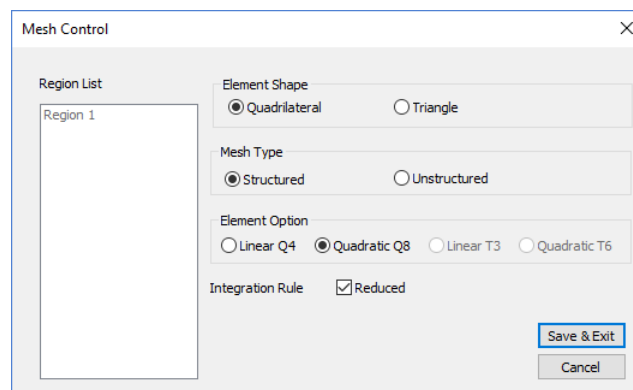

Figure 2.1-26: Dialog for global mesh control
2. Select the fan region, then RIGHT-CLICK and choose “**End Selection**”. The mesh control dialog opens (Figure 2.1-26).
- Check the “Reduced” integration rule (Figure 2.1-26).